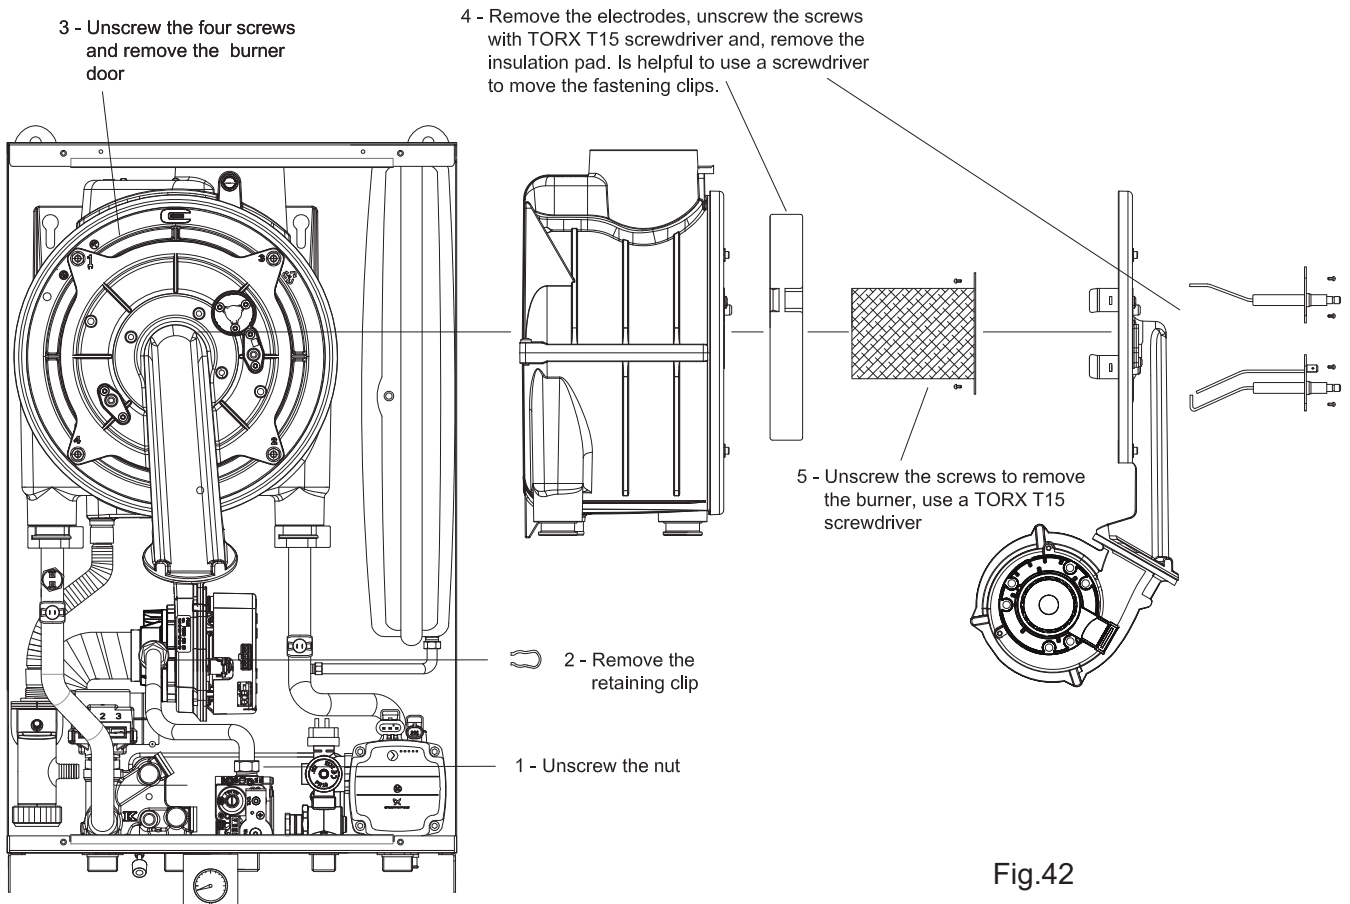

Fig.42
**8.6 TO REMOVE/REPLACE THE BURNER (FIG.42)**